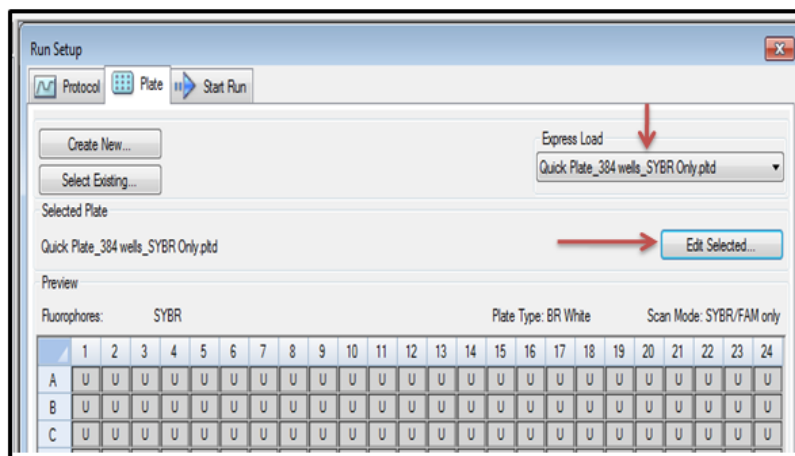

Figure 25: Selecting plate type
5.4. Ensure the type of plate is 'Quick Plate_384 wells_SYBR Only.pltd' under the Express Load tab. See Figure 25. Click on Edit Selected to upload the plate layout.